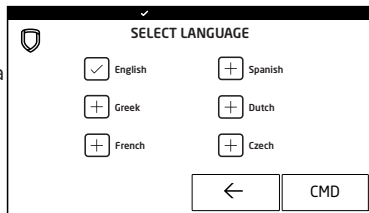

Figure 13: Select Language
**Note:** The keypad does not translate information from the panel that displays on the keypad screen. See Figure 13.